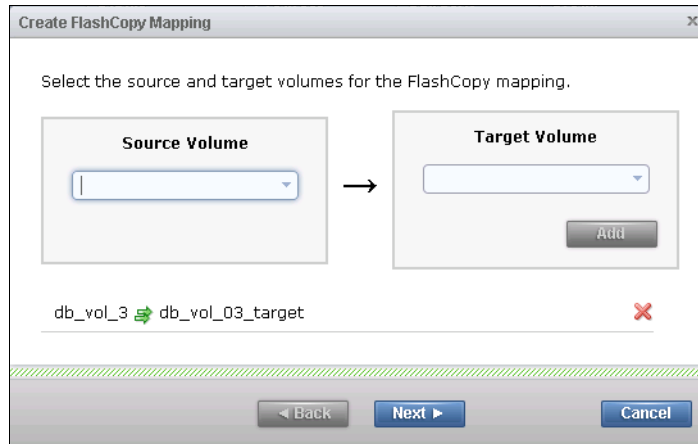

Figure 11-27 Add FlashCopy mapping
3. The FlashCopy mapping is listed (Figure 11-27 on page 349). Click the red **X** if the FlashCopy mapping is not the one you want to create. If the FlashCopy mapping is what you want, click **Next** to continue.